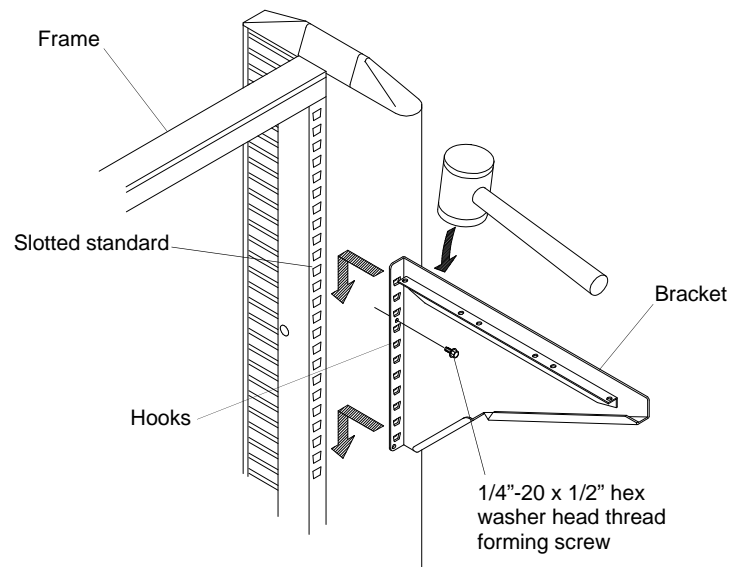

Figure 1
1. Determine the desired location of the **Steel Shelf** and attach the **Brackets** to the frame as shown in **figure 1**.
2. Lock the Brackets in place by installing a 1/4" -20 x 1/2" hex washer head thread forming screw using a 3/8" wrench. See **figure 1**.